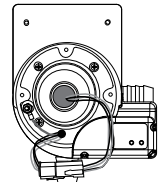

FIGURE 2
2. Once the UV bulb has cooled off remove the CLEARRAY System enclosure cover (2) by removing the four screws (1). This will expose the UV bulb and connections, Figure 2.